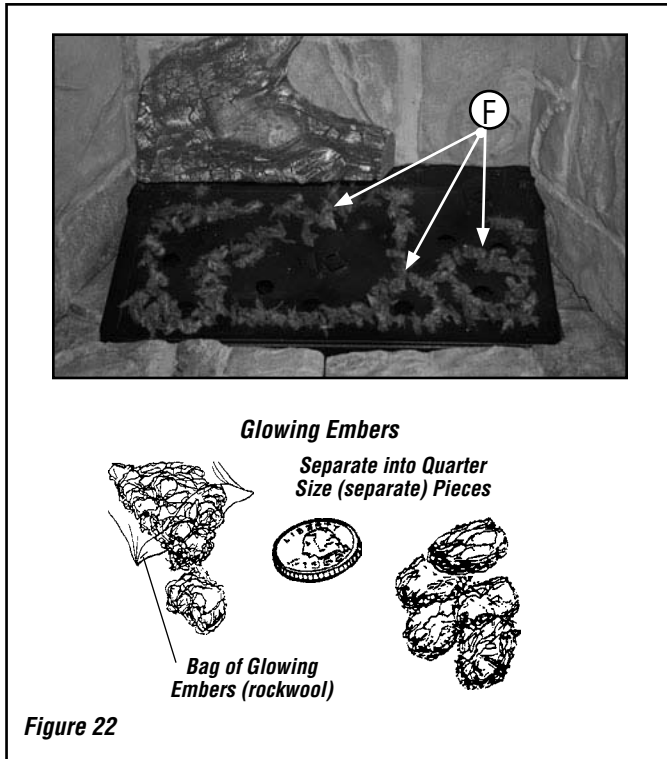

Figure 22
- Separate the glowing embers (F) into quarter size pieces and place along ports on burner pan. DO NOT cover burner secondary holes on burner pan. The pattern for the glowing embers should be similar to what is shown in **Figure 22**.